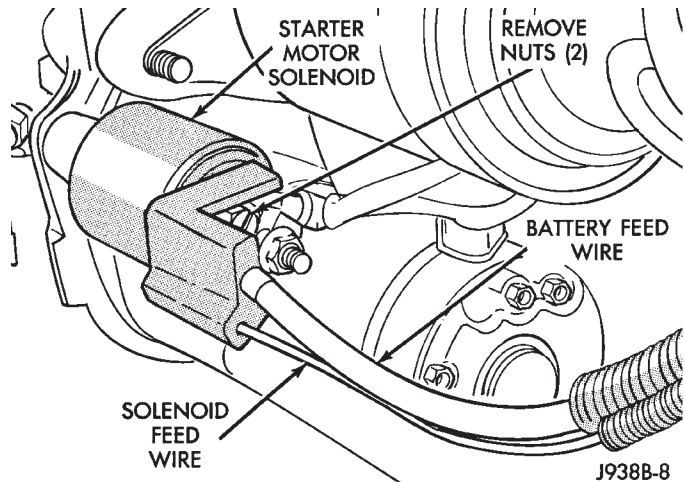

Fig. 9 Starter Wiring Remove/Install - Typical
- (1) Disconnect and isolate the battery negative cable.
- (2) Raise and support the vehicle.
- (3) Disconnect the battery cable and solenoid feed wire from the starter solenoid (Fig. 9).
(3) Disconnect the battery cable and solenoid feed wire from the starter solenoid (Fig. 9).